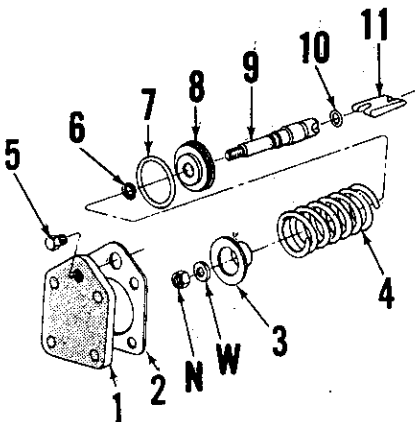

Fig. 260-Exploded view of Servo 1 assembly.
The servo sealing "O" rings (7 and 10—Fig. 260) can now be renewed and the servo assembly reinstalled. However, if inspection of unit reveals excessive wear or other defect, proceed as follows to disassemble and overhaul the servo:
259. To disassemble the servo, place the assembly in a press using sleeve and step plate as shown in Fig. 261. Compress the servo spring and remove the nut (N—Fig. 260) and washer (W) from piston rod (9). Slowly release spring tension, remove unit from press and remove the retainer (3) and spring (4). Remove piston retaining snap ring (6), then push or press piston rod from piston. To reassemble, reverse disassembly procedure. When reinstalling piston, be sure sharp edge of snap ring